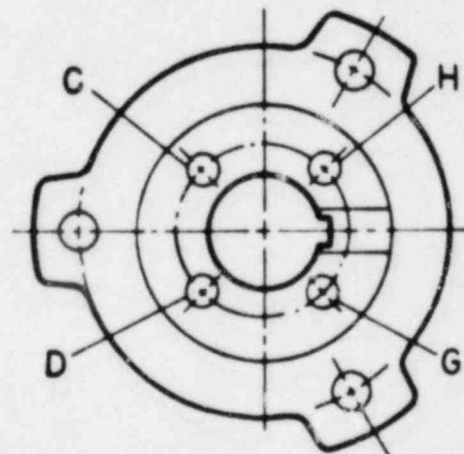

Figure 11A-14. IMPELLER ADJUSTMENT
11A-3 The driving mechanism of all hollow-shaft drives is shown on Fig. 11A-2 which is self explanatory. The drive shaft, you will note, extends up through the quill or hollow-shaft of the motor (or gear) drive and is held in place by an adjusting nut which not only carries all the static and hydraulic
11A-4 After lowering and orienting motor and/or gear drive as explained above, remove the drive coupling as shown in Fig. 11A-2.
NOTE: Shaft adjustment up or down is accomplished by turning the adjusting nut (604), Fig. 11A-2.
Align hole "A" in adjusting nut and hole "C" in motor coupling (see Fig. 11A-14) or whatever similar holes are in like juxtaposition. If care is exercised this will give an initial impeller clearance of from .001" to .003" (0.02 to 0.07 mm) depending on shaft size and thread data shown in Table 11A-15.
1. Remove capscrew (757Q) and with impellers touching bowl faces, turn adjusting nut (604B) counterclockwise until face of adjusting nut makes contact with spindle (605).
2. Align hole "A" in adjusting nut and hole "C" in spindle. (See figure 11A-14.)
4. After adjustment is complete, insert capscrew (757Q) in corresponding hole in adjusting nut, thread into spindle (605) and tighten securely. Set seal after impeller adjustment.